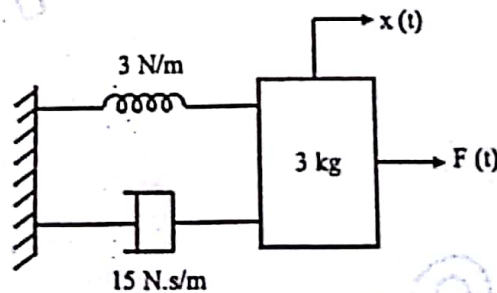

Fig. 5 (a)
5. a) Determine T.F.  $\frac{X(S)}{F(S)}$  for the system shown in fig 5 (a) and find domain specifications